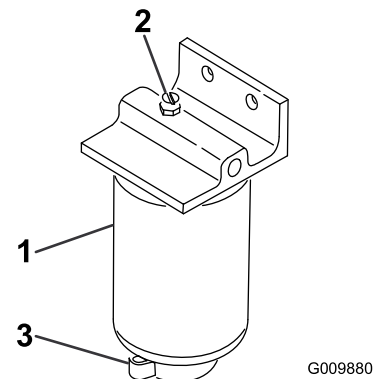

Figure 57
2. Loosen the drain valve on the bottom of the filter canister (Figure 57).
1. Clean the area where the filter canister mounts (Figure 57).